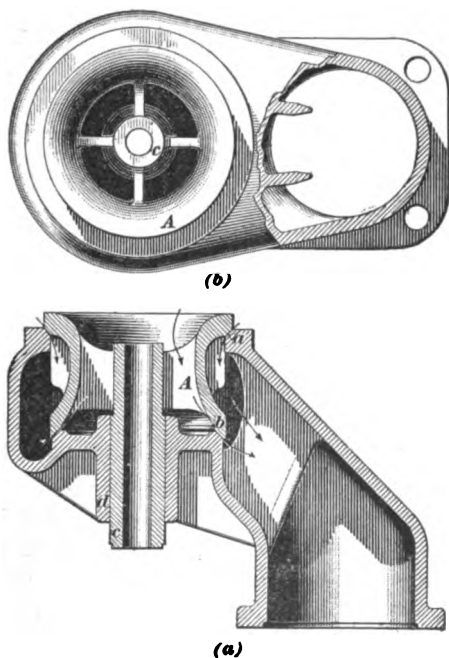

FIG. 4.
**6. Vogt Throttle Valve.**—A style of throttle valve used quite extensively on the Pennsylvania Railroad is shown in Fig. 4, in which (*a*) is a section through the middle of the valve and throttle pipe, and (*b*) is a plan view showing part of the valve case broken away. The valve, which is marked *A*, is ground to a steam-tight fit on its seats *a* and *b*, and is made of such a form that it is as nearly balanced as practicable. The stem *c* works in the guide *d*, which insures the valves seating properly. When the throttle is open, steam flows between the valve and its seats *a*, *b*, as shown by the arrows in view (*a*).